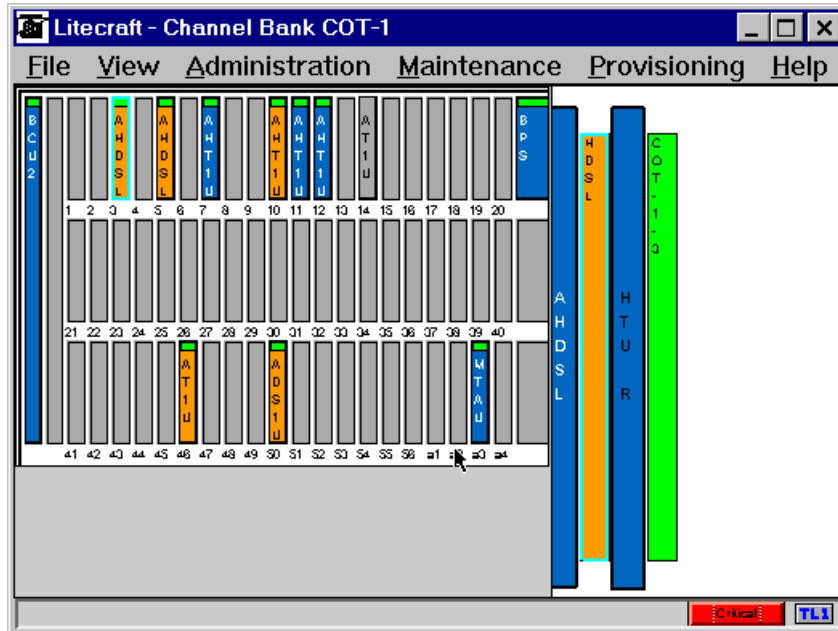

Figure 9. Channel Bank Screen with AHDSL Circuit Selected
- 4 The selected Channel Bank screen appears (Figure 9 on page 15). This screen outlines all the CBA slots and displays the name of the plug that occupies each slot. The HLU-200 is identified as an AHDSL unit. Before inserting the AHDSL card into a Litespan slot, click on the slot to determine its status. The slot will be identified as being in one of the following three states.
- 6 Click the AHDSL unit icon (shown in slot 5 of Figure 9). The AHDSL circuit appears as a series of rectangles on the right half of the Channel Bank screen as shown in Figure 9 on page 15. The rectangles from left to right represent the AHDSL unit, the HDSL loops, the remote HTU, and the CBA selected. See Table 7 for the definitions of the various color codes that can appear in the Channel Bank screen of Figure 9, where OOS = Out of Service and IS = In Services.
- 1 Highlight the COT box from the Channel Bank screen (Figure 9 on page 15). Then select **Maintenance | Grades of Service | Edit GOS Table**. The T1 Errored Seconds Threshold screen, Figure 18, appears.